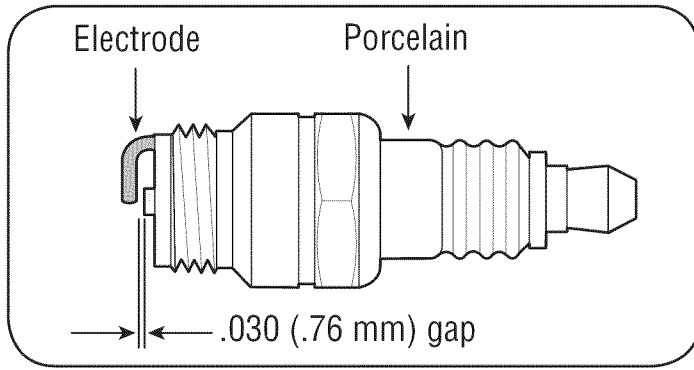

Figure 12
2. Remove and inspect the spark plug. Check gap to make sure it is set at .030". See Figure 12.